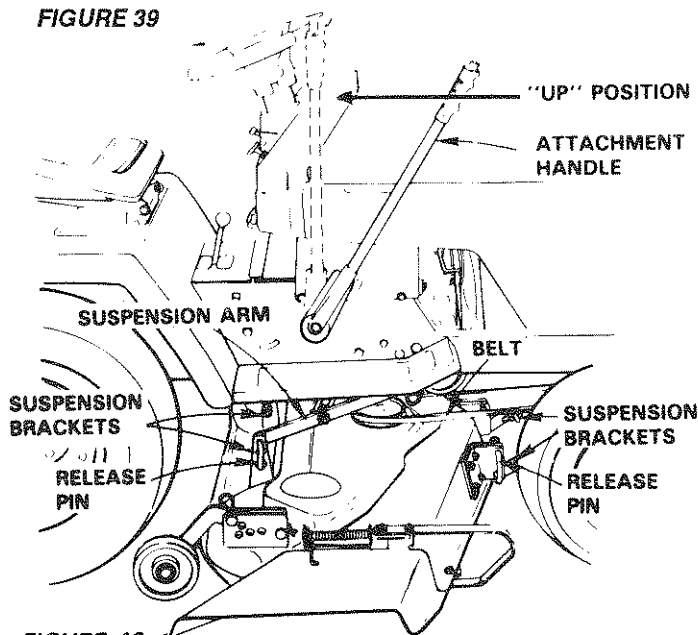

FIGURE 40
- Pull the four (4) release pins out of suspension brackets (Fig. 40).